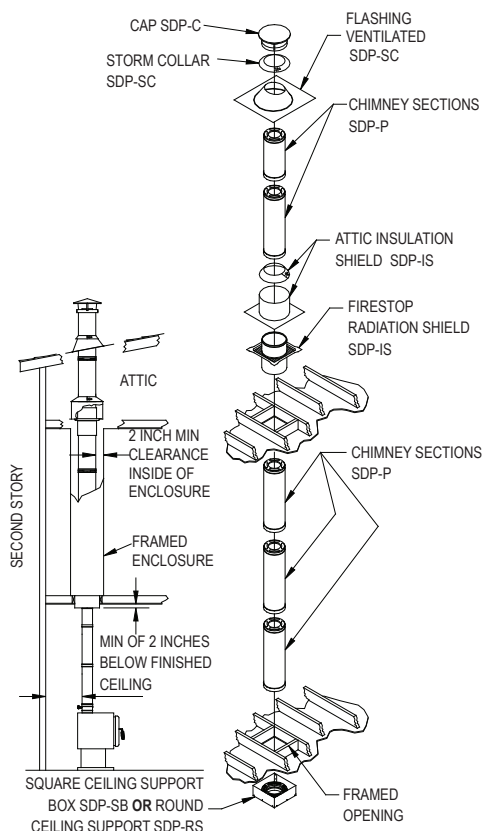

Figure 7
4. Frame Openings: Frame openings in each ceiling or floor above the Support Box. (Figure 7). These openings are to hold the Firestop Radiation Shields and Attic Insulation Shields. Locate each opening by dropping a plumb bob to the four corners of the opening below. Maintain the minimum clearances and
through a Firestop Radiation Shield, a ceiling, and into an attic. The other is a multi-story building where the chimney passes through a Firestop Radiation Shield, through a ceiling, into another story, and then into an attic. Each of these require a different configuration of the Firestop Radiation Shield. **Figure 7**
c. Slip the Insulation Shield over the Chimney and Firestop Radiation Shield until the base sits squarely on the framed opening. (**Figure 7**).